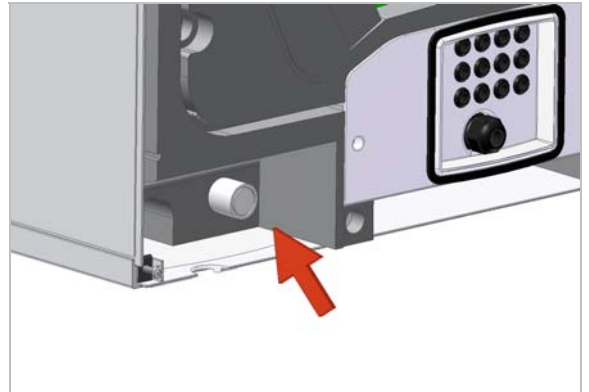

Figure 11: Condensate Stub Disk (Rear of Unit)
1. For vertical discharge, remove the rear cover and locate the condensate stub at the rear of the unit (see Figure 11).